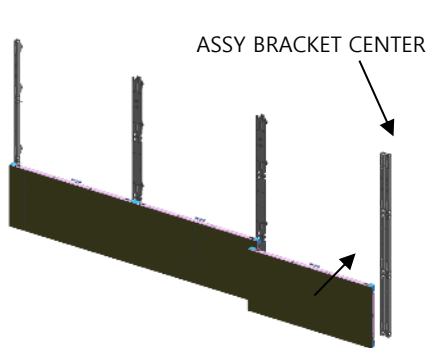

Fig5. Install cabinets
- ⑤ Install the ㉓ASSY BRACKET CENTER instead of the ㉑ASSY BRACKET SIDE on the right side.
- ⑥ Install cabinet from the bottom row. [Fig.5]
- ⑦ After completed installation of cabinet, Check the flushes between LED Module and both end cabinet by pushing the LED Modules towards the center.